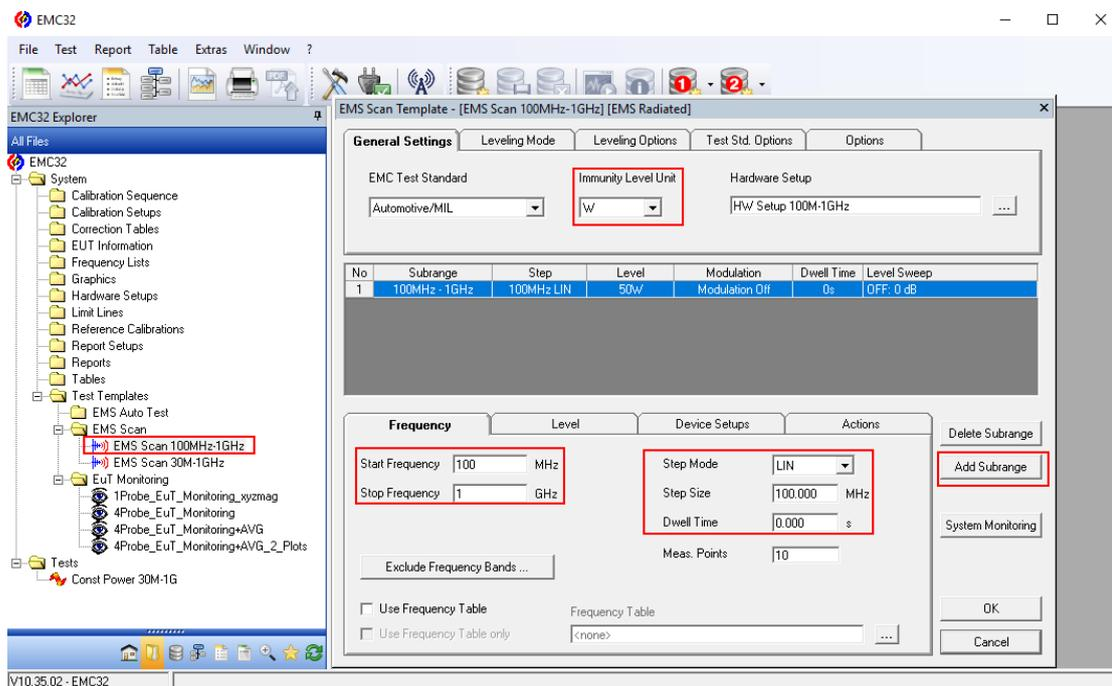

Figure 10: EMS Scan Template setup "EMS Scan 100MHz-1GHz"
- new EMS Scan for EMS radiated added, named "EMS Scan 100MHz-1GHz", see Figure 10